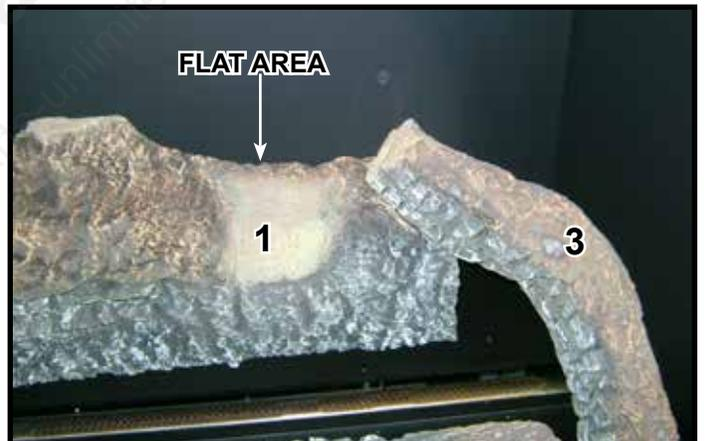

Figure 10. Flat Area of Log #1 Used for Log #4 Placement
**Log #4 (2033-720):** Log #4 is used twice in this log set. The right log is located by placing the “Y-Shaped” end on the flat area of Log #1 and setting the other end on the right side Log #2. See Figure 10 and Figure 13. The log should be approximately one inch from the end of the right side Log #2. See Figure 14.